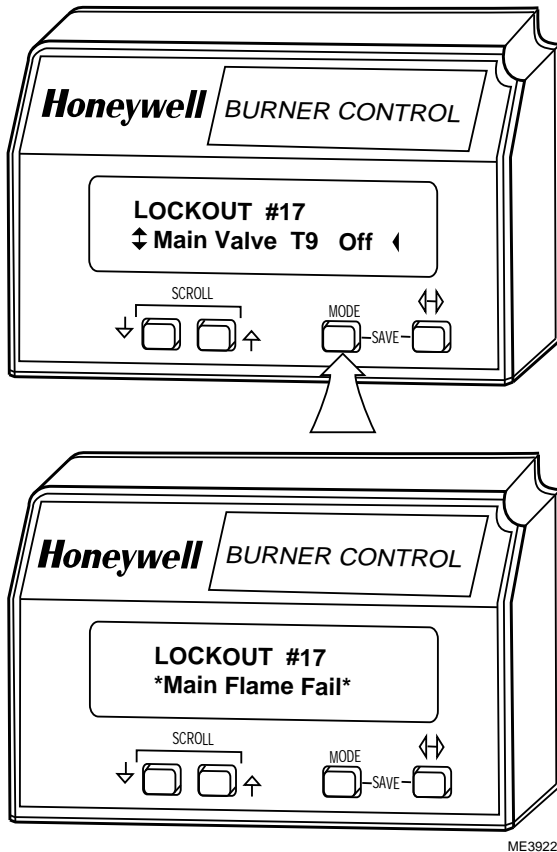

Fig. 20. MODE pushbutton function.
③ Mode pushbutton, see Fig. 20.